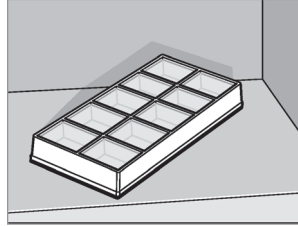

Fig. 30
- Switch off MES and AES models by pressing button (2). Keep button (2) pressed for 3 seconds. The display disappears and the appliance is fully switched off (Fig. 30).